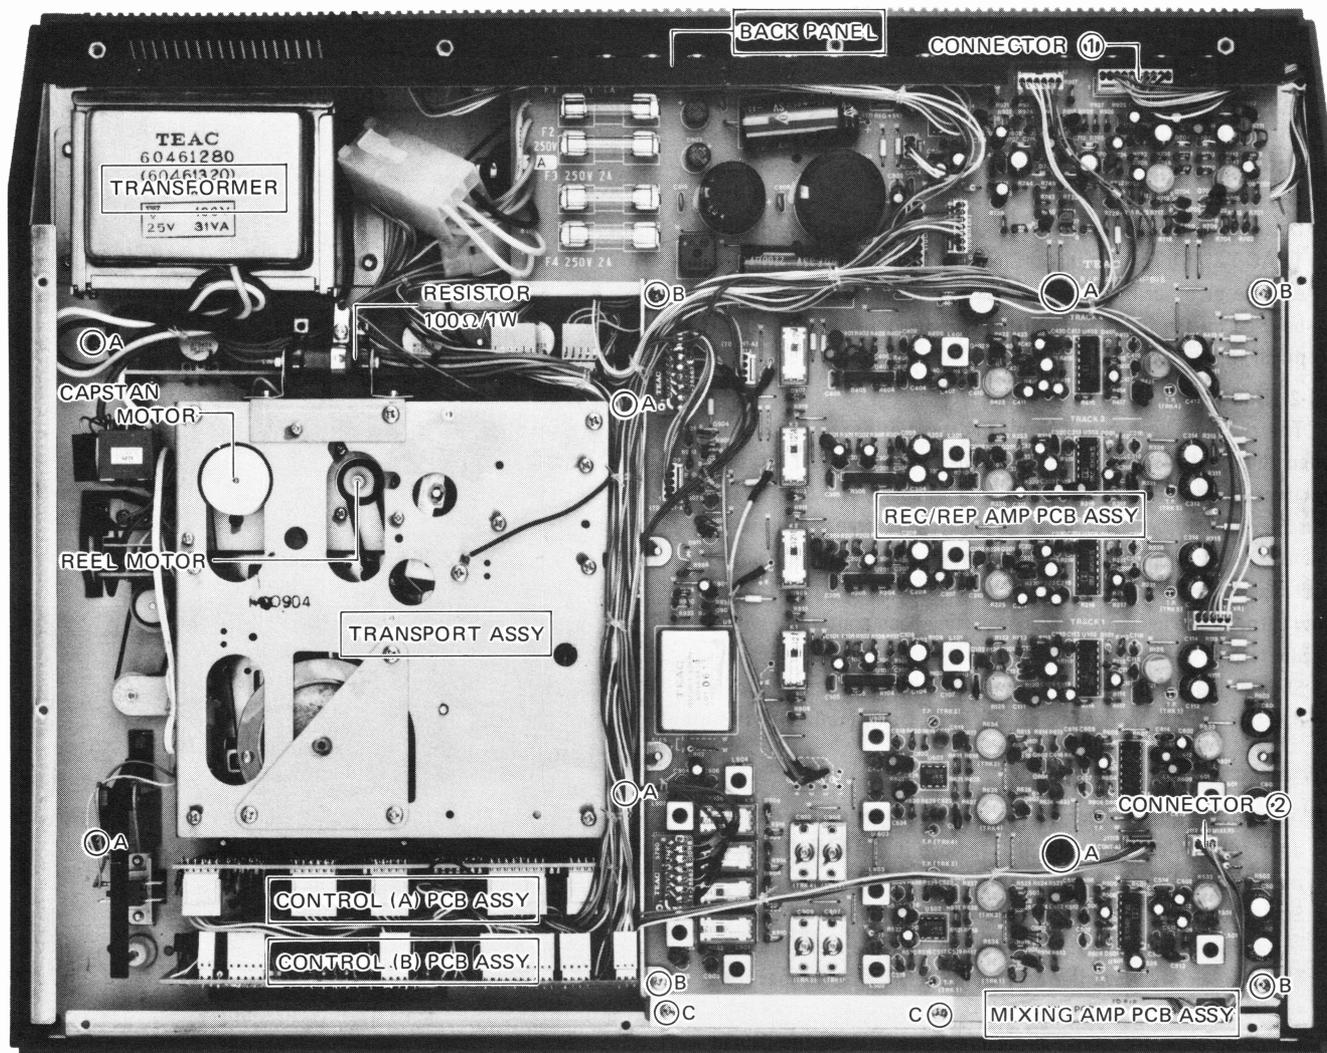
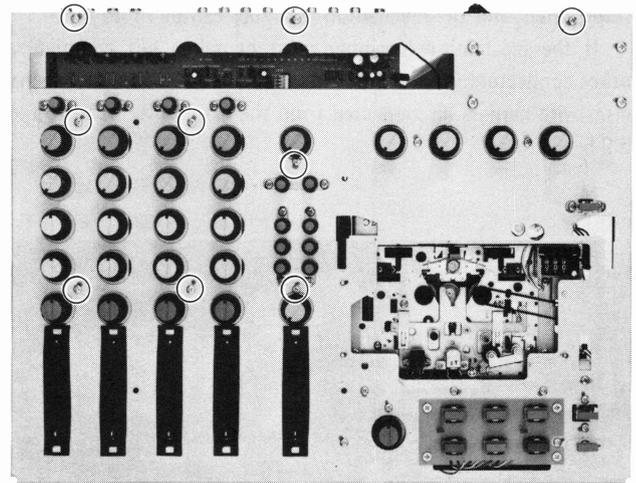

Fig. 5-2-1
Fig. 5-2-3
- Remove the six washer head tapite screws from the rear side. Fig. 5-2-1, circled screws (A mark)
- If the Trim Cover Assembly is to be removed completely, disconnect the cable harness connector ① leading from the VU meters. Fig. 5-2-1
- Refer to Fig. 5-2-1.
- If you need only to inspect the PC pattern on the rear side, the right hand side can be lifted by removing the screws and disconnecting cable harness connectors ① and ②.
- Remove the screws (c mark) on the rear side (Fig. 5-2-1), and screws on the front side (Fig. 5-2-3). If it is for checking or replacing parts of the PCB, it is recommended to do so with the rear panel attached.